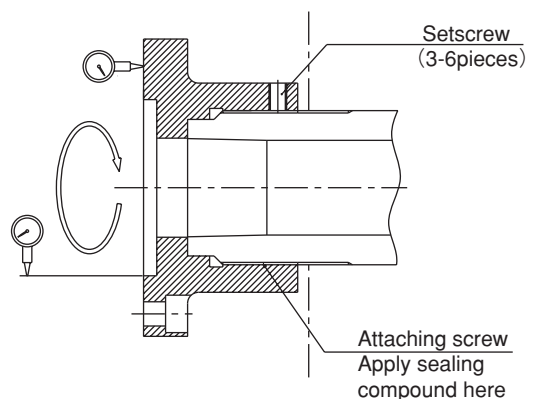

Fig. 10 Run-out measurement of the cylinder adapter
- Attach with the surface run-out of the cylinder adapter and the run-out of the spigot joint at 0.005 mm or less. (Fig. 10) Large run-out causes vibration and shortens the life of the cylinder significantly.
- Never fail to provide a setscrew to prevent loosening of the cylinder adapter. (Fig. 10)